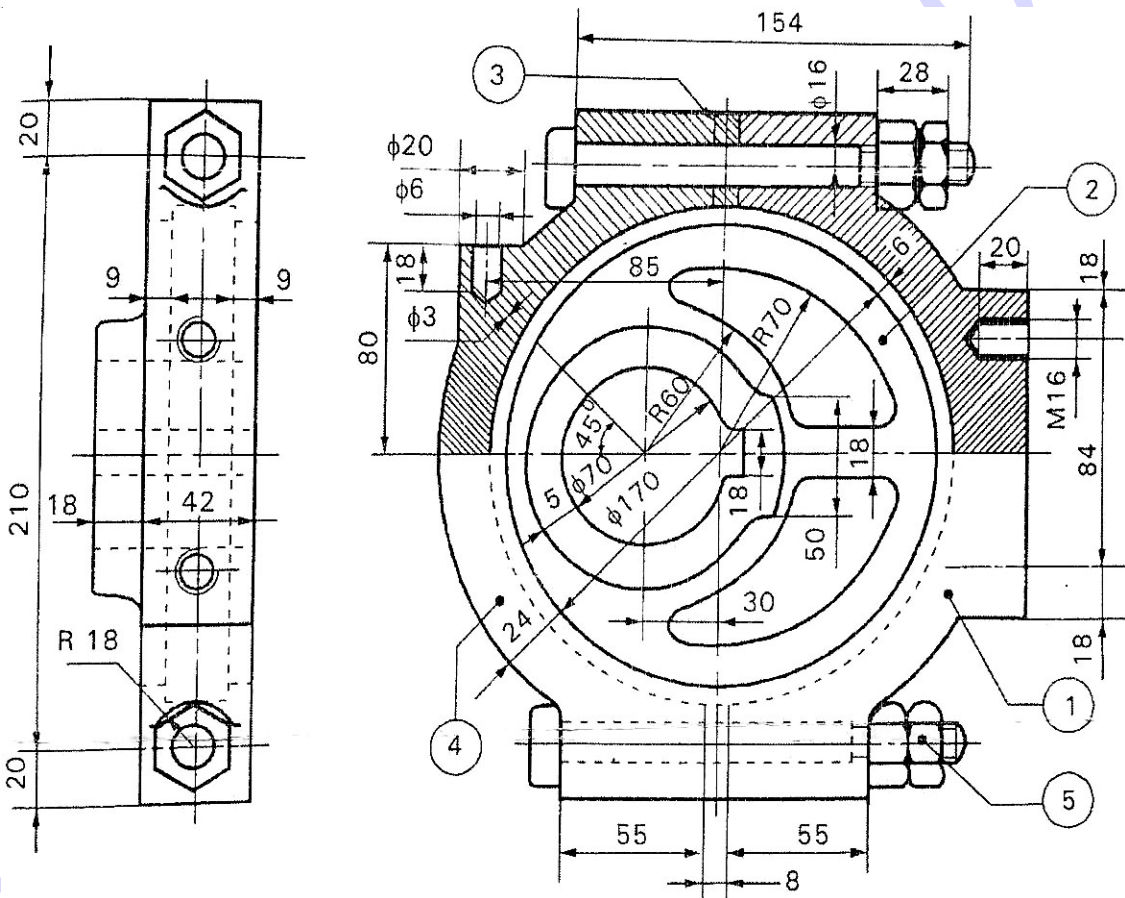

Fig. 1
**Instructions :** (1) Answer *any one* question.
(2) Each question carries **forty** marks.
**5.** Study the given assembly drawing of the eccentric shown in Figure 1 : 20+5+5+5+5=40